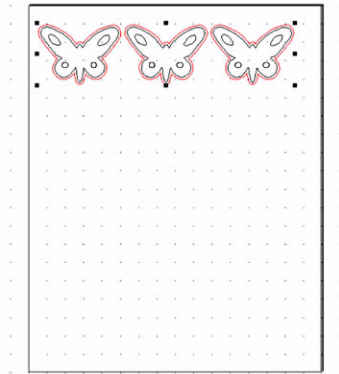

Figure 55
- 6** Click **OK**. The images appear across the page, as shown in figure 55.